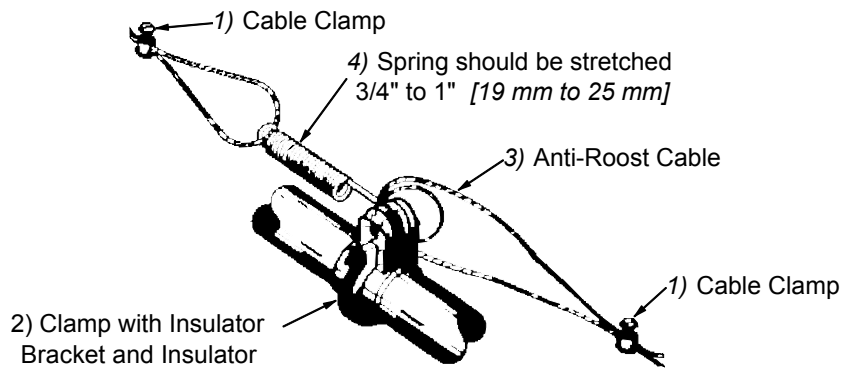

Figure 39. Anti-Roost Cable Intermediate Connection
4. Attach a spring in the center groove at the second anti-roost bracket and cut the cable at this point. See **Figure 39**.
5. Thread the ends of the cable through the end of the spring. Pull the cable tight so that there is 3/4" to 1" [20 to 25 mm] of stretch in the spring. Clamp the cable to form a loop and cut off any excess. See **Figure 39**.
6. Attach the cable to the insulator. For best results, make a double loop around the anti-roost insulator in the center groove of the insulator and fasten with a 1/16" cable clamp as shown in **Figure 39**.